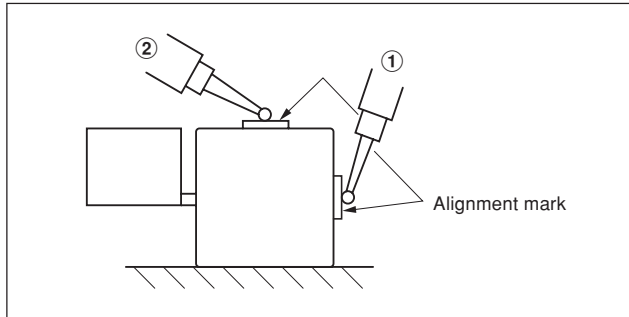

Fig. 3-7 Parallelness check of scale part and machine table movement
(4) Measuring parallelism of scale part with machine table movement
Place a pick tester or dial gauge directly where the alignment mark (Fig. 3-7 ①) is positioned on the side of the scale part, and check that the scale part is surely mounted parallel to the machine table movement.
(5) When the specified parallelism for the scale mounting bracket is not obtained
Insert spacers below the feet and make adjustment by placing a pick tester or dial gauge at ② in Fig. 3-7 to adjust the parallelism to within 0.08 mm/0.03" throughout the length between may be obtained at the alignment marks.